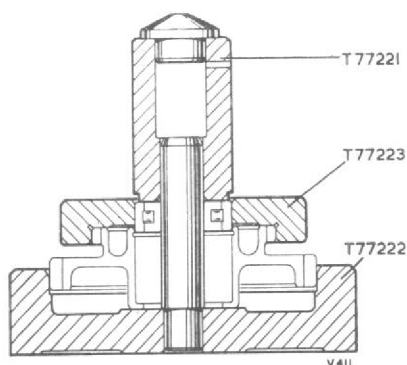

Fig. 12. Pressing the lower outer roller race into the idler gear
- (3) Fit the outer race of the inner roller bearing in the bore of the adapter ring; using adapter T77221, press the outer race into position (fig. 12).